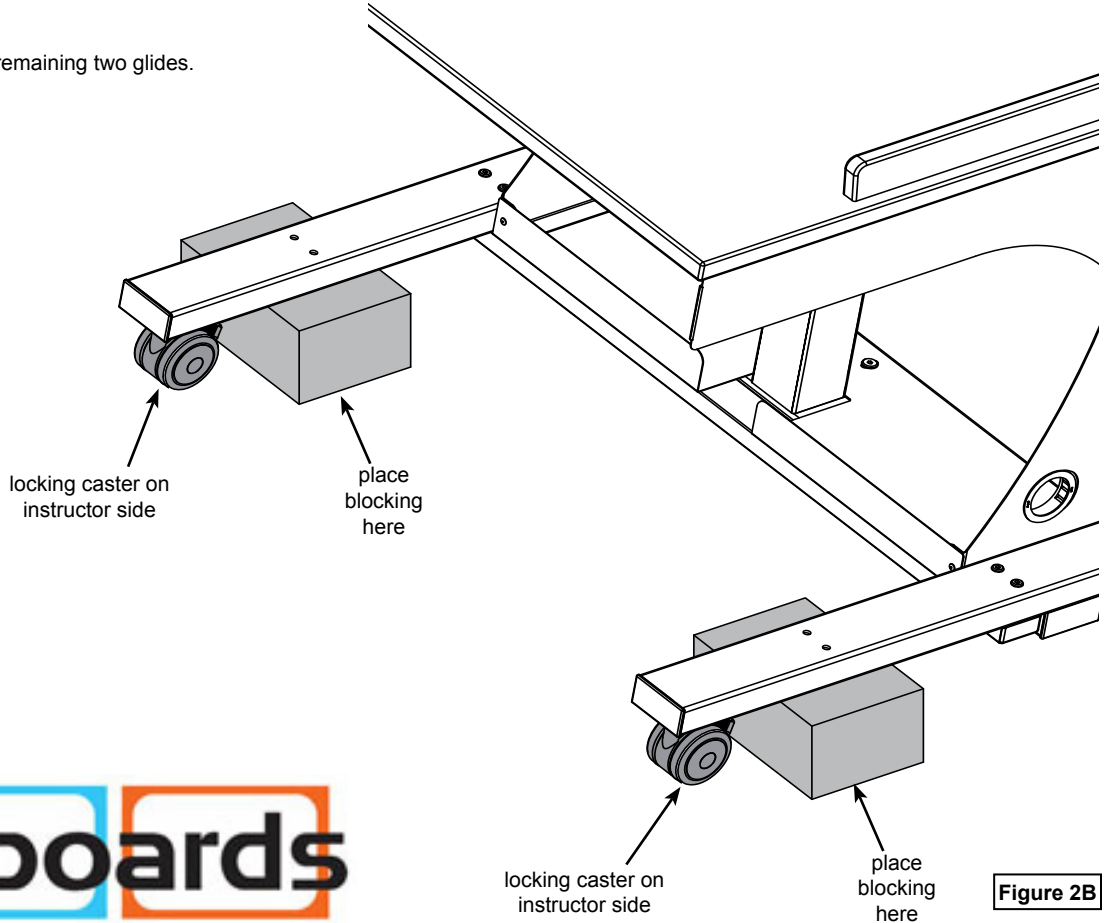

Figure 2B
1. Carefully tip up one side of the lectern using blocking. **Figure 2B.**